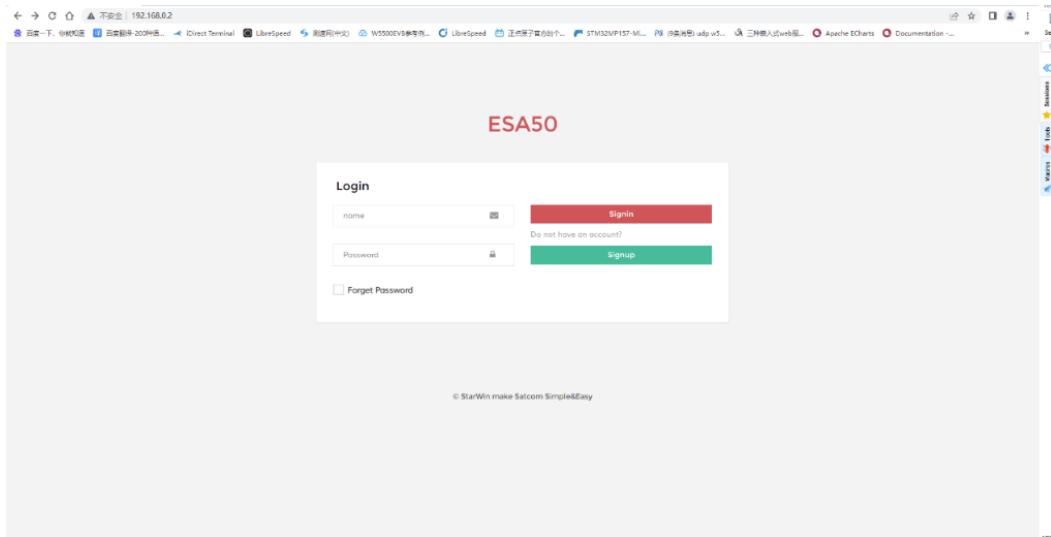

Figure 8-1 Login Interface
- ① After performing the data access operation according to **Section 6.2.2**, open the Edge browser or Chrome and enter 192.168.0.2 in the URL bar to enter the login screen as shown in Figure 8-1.